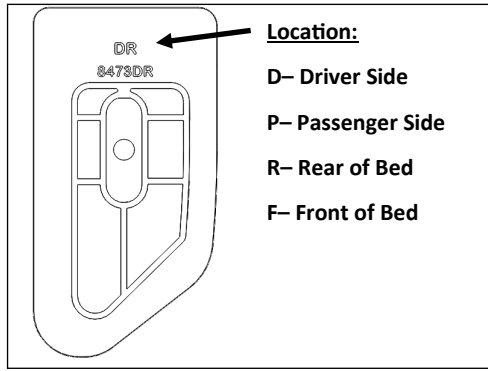

Figure 5: Location markings on bottom of gasket.
7. Orient gaskets as shown in **Figures 5 & 6**.